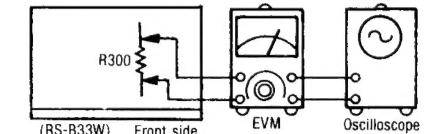

Fig. 9
- Test equipment connection is shown in fig. 9.
1. Test equipment connection is shown in fig. 9. 2. Place UNIT into metal tape mode. 3. Press the record and pause buttons. 4. Read voltage on EVM and calculate erase current by following formula: